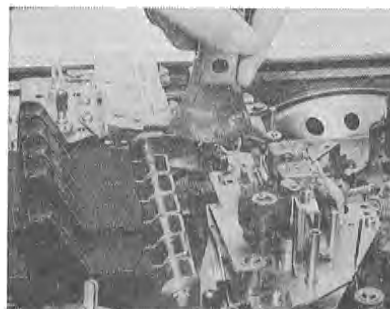

Fig. 16
- b) Pad pressing force  $50\text{gr} \pm 10\text{gr}$ .....Fig. 16